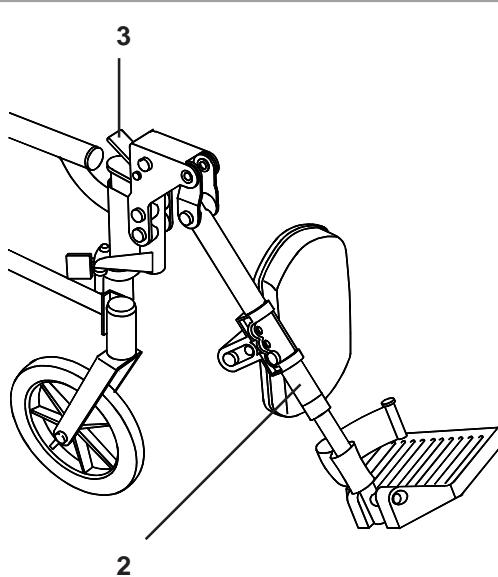

Fig. 17
To lower the legrest whilst seated in the chair push the release lever (3) forwards and lower the legrest to the desired position. Release the lever, the legrest will lock into position (Fig. 17).